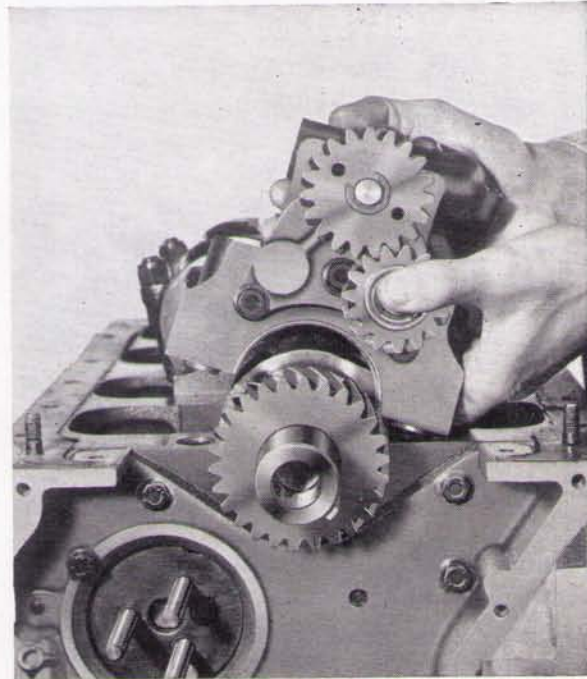

Fig. P.4.
6. Remove No. 1 main bearing cap and pump as one assembly. (See Fig. P.4).